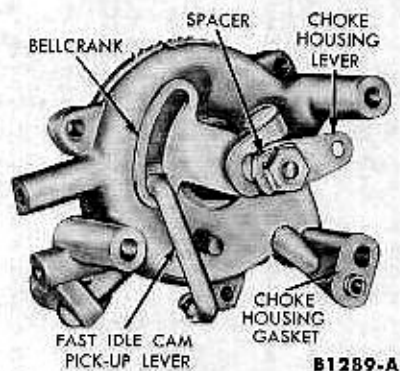

FIG. 18—Choke Housing Bellcrank and Lever Installation
9. Position the bellcrank on the choke housing shaft and temporarily tighten the screw (Fig. 18).